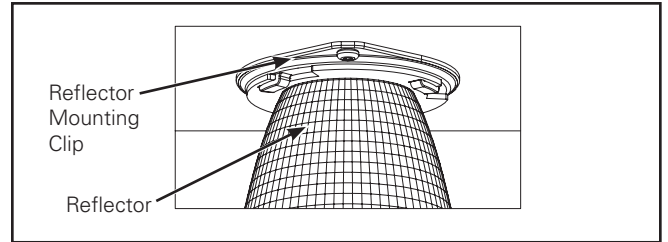
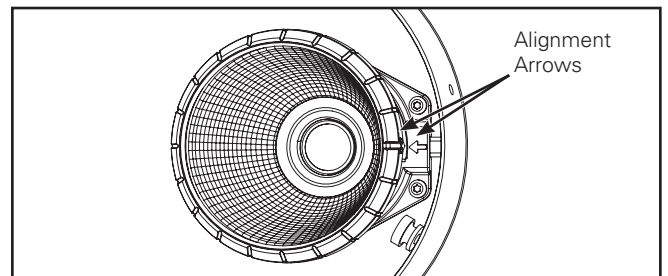

Figure 10.
Figure 11.
4. Insert Optic Assembly into housing Flange first while holding the metal Reflector and not the rubber Media Holder. Place the Flange on the white Reflector Mounting Clip and press firmly then rotate clockwise until the 3 latches snap into place (Figure 10). Ensure Alignment Arrows on Media Holder and Reflector Mounting Clip line up for optional directional media (Figure 11).